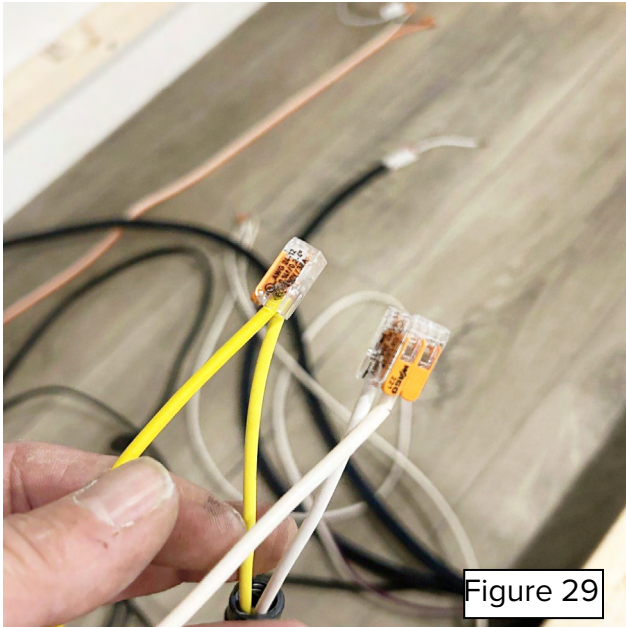

Figure 29
32. Using the existing WAGO connectors, connect the slide out wiring to the bed platform wiring per the photos previously taken. Test lights and motion sensors for proper operation (Figure 29).